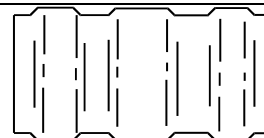

Figure 3-17
41. The M83519/1, (shown in Figure 3-16) and the M83519/2, (shown in Figure 3-17), are identical in construction, function and use, except that the M83519/2 contains a pre-tinned ground lead.